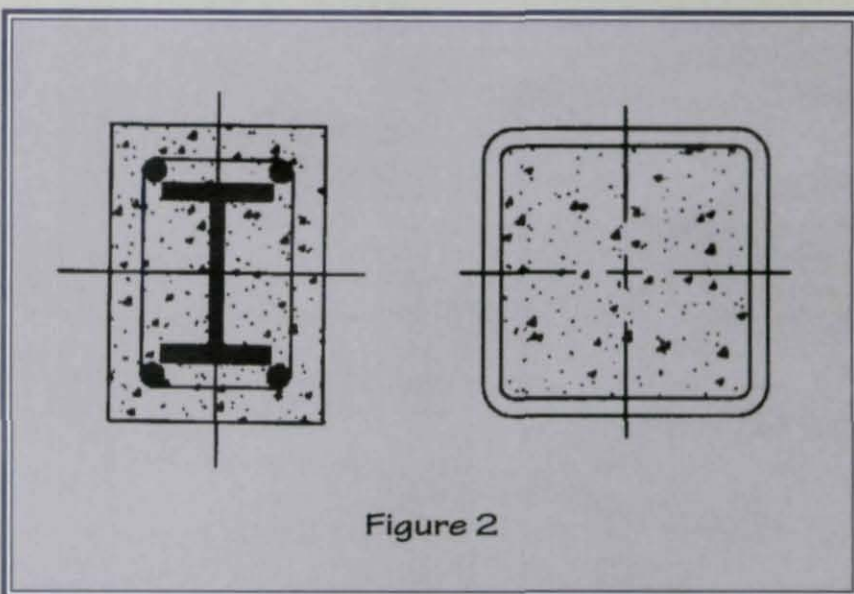

Figure 2
Beyond composite beams, only the LRFD Specification offers guidance on the design of composite columns (see Figure 2). Likewise, the assessment of composite connection strength and performance is prudent only when factored load effects are considered. A partially restrained (PR) composite connection (as detailed in AISC's Design Guide #8: Partially Restrained Composite Connections) can be used to reduce both steel tonnage and service-